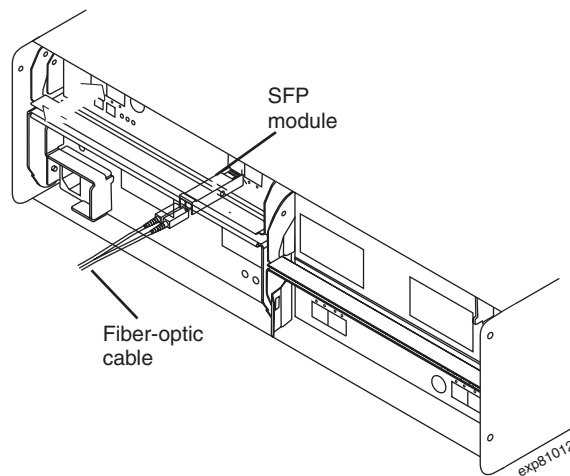

Figure 70. Installing an SFP module and connecting an LC-LC cable to the storage expansion enclosures
2. Connect an LC-LC fiber-optic cable into the SFP module, as shown in Figure 70 on page 106.
Install an SFP module in the SFP port on the back of the storage expansion enclosures; then, connect the other end of the LC-LC cable into the SFP module, as shown in Figure 70.